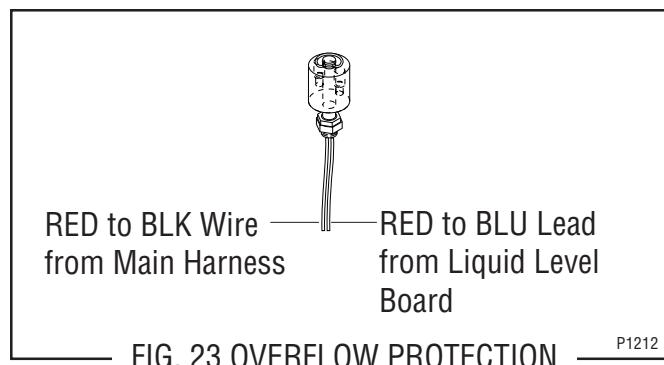

FIG. 23 OVERFLOW PROTECTION SWITCH LEADS P1212
6. Refer to Fig. 23 when reconnecting wires.